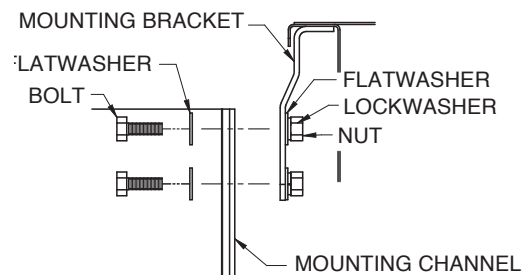

Figure 29
2. At each hole, attached the mounting channel to the bracket using 3/8" (10 mm) hardware as shown in Figure 29.